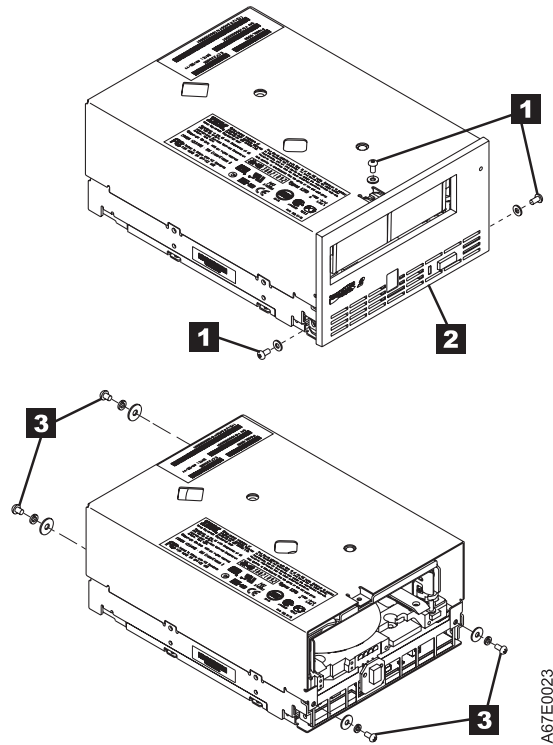

Figure B-15. Removing the top cover of the drive
- a. Use an appropriate tool to remove the three screws and washers (see **1** in Figure B-15 on page B-20) that secure the bezel **2**. Remove the bezel.